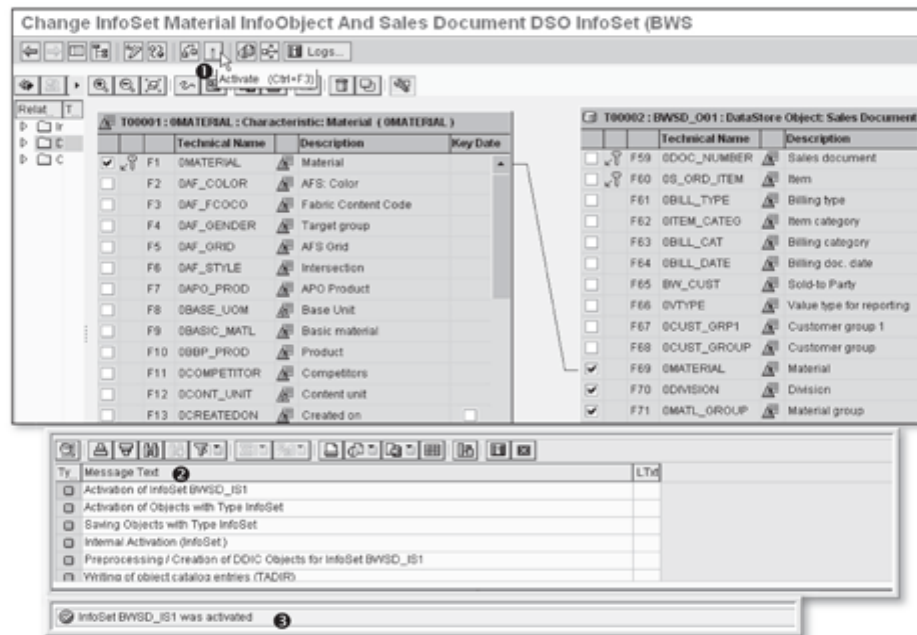

Figure 6.25 Activating the InfoSet
To activate, click on the activate icon  as shown in ❶ of Figure 6.25. Activation messages are given at the lower section of the screen in a separate area (❷).
The final activation message is given at the bottom of the screen as shown in ❸ of Figure 6.25. Now the definition of the InfoSet is available for further use, including creating a query based on this InfoSet or creating a new MultiProvider that includes InfoSet BWSD_IS1.